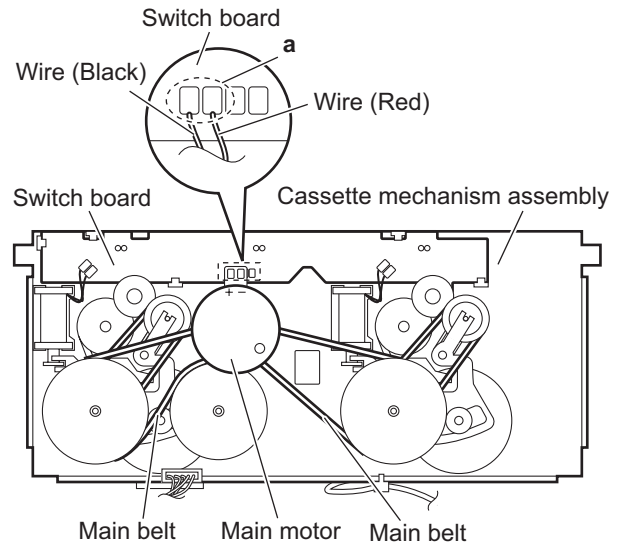

Fig.2
- (2) From the back side of the cassette mechanism assembly, remove the wires from the soldered sections **a** on the switch board. (See Fig.2.)
After reassembling, check the direction of the main motor and polarity of the wires. (See Fig.2.)
- (3) Remove the main motor and main belts. (See Fig.2.)